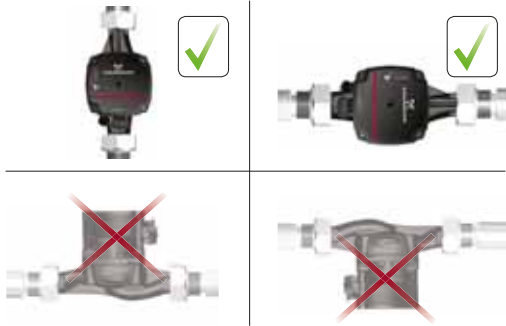

Fig. 4 Pump positions
Always install the pump with a horizontal motor shaft within  $\pm 5^\circ$ . Do not install the pump with a vertical motor shaft. See fig. 4, bottom row.
- Pump installed correctly in a vertical pipe. See fig. 4, top row, left.
- Pump installed correctly in a horizontal pipe. See fig. 4, top row, right.